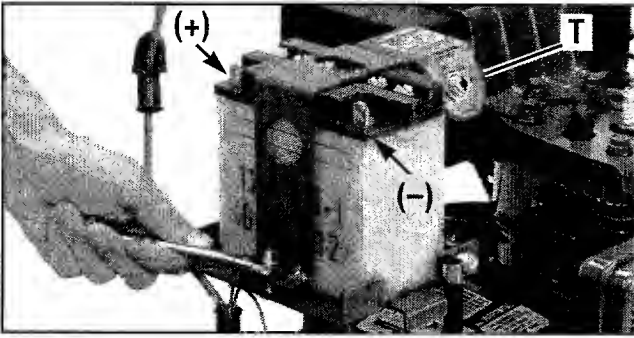

Figure 2-19: Attach hold-down clamp.
1. Reinstall the battery on the battery mounting base with the two posts facing to the rear of the tiller. Be sure that the positive (+) post is on the left-side of the tiller and the negative (-) post is on the right-side (as viewed from rear of tiller). See Figure 2-19.
2. Reinstall the battery hold-down bracket over the battery, with the ignition switch (T, Figure 2-19) toward the front of the unit. Attach the bracket to the mounting base using the two 1/4-20 x 1-1/4" carriage screws, 1/4" lockwashers and 1/4"-20 nuts removed previously. Insert the screws up from beneath the mounting base. Tighten the nuts securely, but not so much as to bend the tabs on the hold-down bracket.